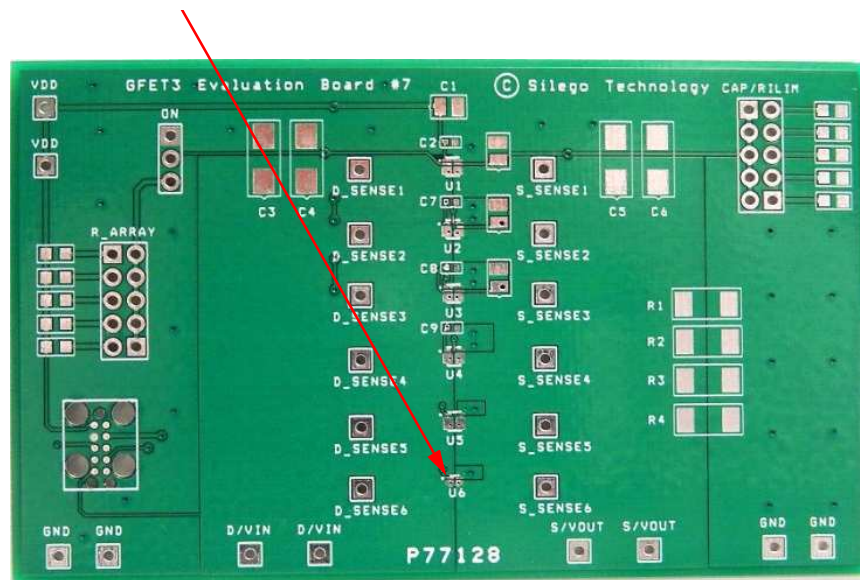

Figure 1. SLG59M1440V Evaluation Board.
1. Since the D and S pins dissipate most of the heat generated during high-load current operation, it is highly recommended to make power traces as short, direct, and wide as possible. A good practice is to make power traces with an absolute minimum width of 15 mils (0.381 mm) per Ampere. A representative layout, shown in Figure 1, illustrates proper techniques for heat to transfer as efficiently as possible out of the device;
A GreenFET Evaluation Board for SLG59M1440V is designed according to the statements above and is illustrated on Figure 1. Please note that evaluation board has D_Sense and S_Sense pads. They cannot carry high currents and dedicated only for $R_{DS(ON)}$ evaluation.